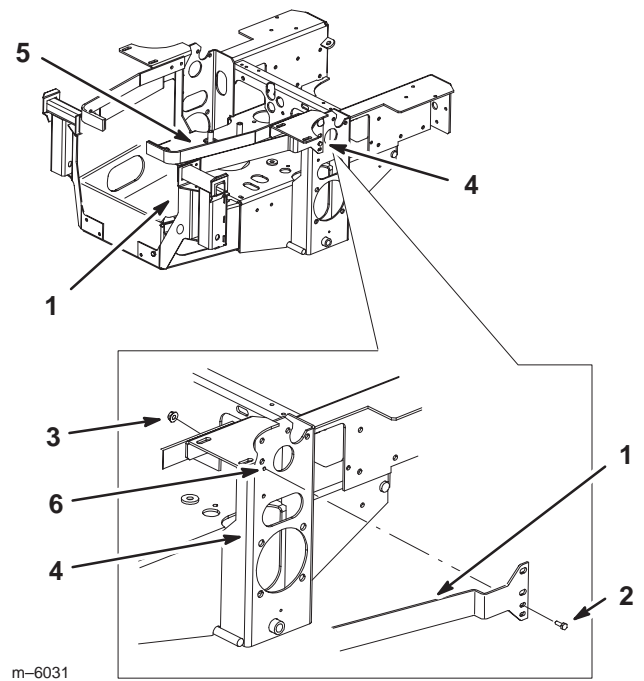

Figure 7
5. Using the existing 1/4 in. hole in the side frame, loosely install the bagger mounting bracket to the side frame (Fig. 7). Use 1 bolt (1/4 x 3/4 in.) and 1 flange nut (1/4 in.) (Fig. 7).